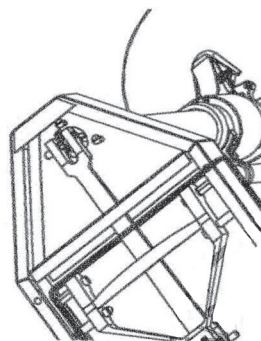

Fig. 2
- To clasp the knife of the lever head with the load-carrying hood. (Fig.2)